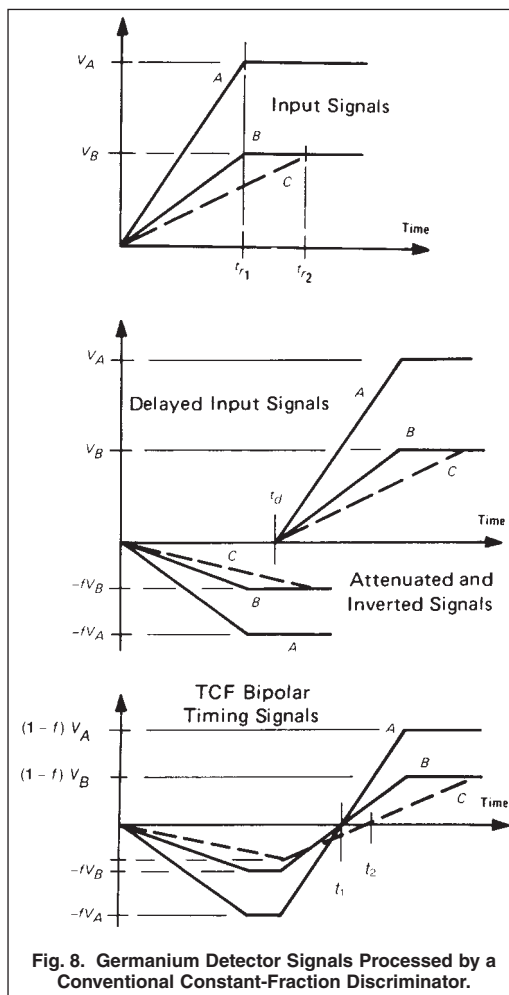

Fig. 8. Germanium Detector Signals Processed by a Conventional Constant-Fraction Discriminator.
Two factors control the intrinsic time resolution of germanium detectors: (a) variations in the charge collection time, and (b) the noise/slope effect described by Equation (10). The former so overwhelms the latter that the timing technique must be focused on overcoming the charge collection time variations, with the resulting noise/slope contribution simply being tolerated. The top diagram in Fig. 8 depicts the variation in pulse shapes observed at the preamplifier output for a germanium detector. The longest charge collection times (illustrated by pulse C) are caused by gamma rays that produce electron-hole pairs in the detector at a location close to one of the electrodes. In this case, one of the charge carriers has to "drift" the entire distance between electrodes. The minimum charge collection time (pulses A and B) results when the gamma ray interacts in the detector at a position midway between the electrodes. In that situation, the holes and the electrons each drift to their respective electrodes through half of the inter-electrode distance. Consequently, the charge collection time for pulses A and B is about half the charge collection time of pulse C. Gamma rays interacting at other locations in the detector produce charge collection times that are between the limits set by pulses B and C. The longest charge collection time (pulse C) exhibited by a specific germanium detector ranges from 50 ns for the thinnest planar detectors to 600 ns for very large coaxial detectors.
When a leading edge discriminator is used for timing with germanium detectors, the time resolution is about equal to the charge collection time, because of the long and variable charge collection time. Application of a conventional constant-fraction discriminator, as analyzed in Fig. 8, eliminates the walk caused by the difference in A and B pulse heights, but it does not eliminate the timing uncertainty caused by the difference in charge collection times between pulses B and C. The constant-fraction zero-crossing signals for pulses B and C cross the baseline at different times, t_1 and t_2 .